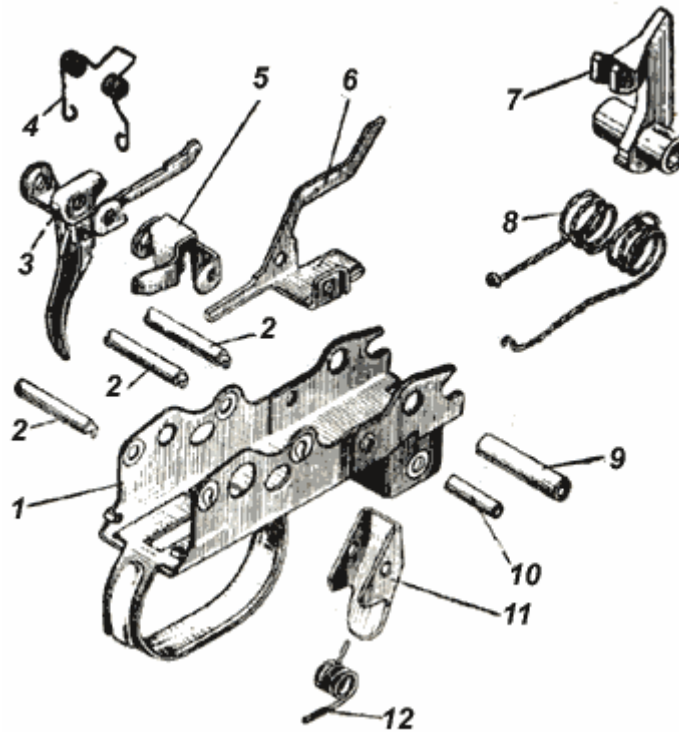

Fig. 14. Firing and trigger mechanism:
a. Perform the partial disassembly as instructed in item 2.6.2.
e. Disassemble the firing and trigger mechanism (Fig. 14). Press the auto safety lever and disengage the auto safety sear from the hammer; holding the hammer, press the trigger and gradually release the hammer from the cocking cam; disengage the ends of the trigger spring from the hooks of the firing and trigger mechanism body. Use a screwdriver to match the lugs trigger mechanism pins with recesses located on the right-hand wall of the firing and trigger mechanism body. Drive out the trigger mechanism pins and detach these parts. Use a drift to drive out the hammer pin, detach the hammer together with the mainspring, and then remove the mainspring.